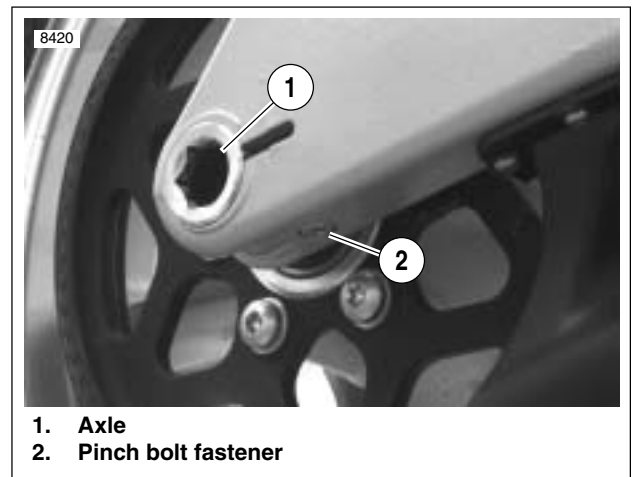

Figure 2-25. Rear Wheel Mounting, Right Side
7. See Figure 2-25. Tighten rear axle (1) to 23-27 ft-lbs (31.2-36.6 Nm), back off two full turns and then retighten to 48-52 ft-lbs (65.1-70.5 Nm).
8. Tighten pinch fastener (2) on right side of swingarm to 40-45 ft-lbs (54-61 Nm).